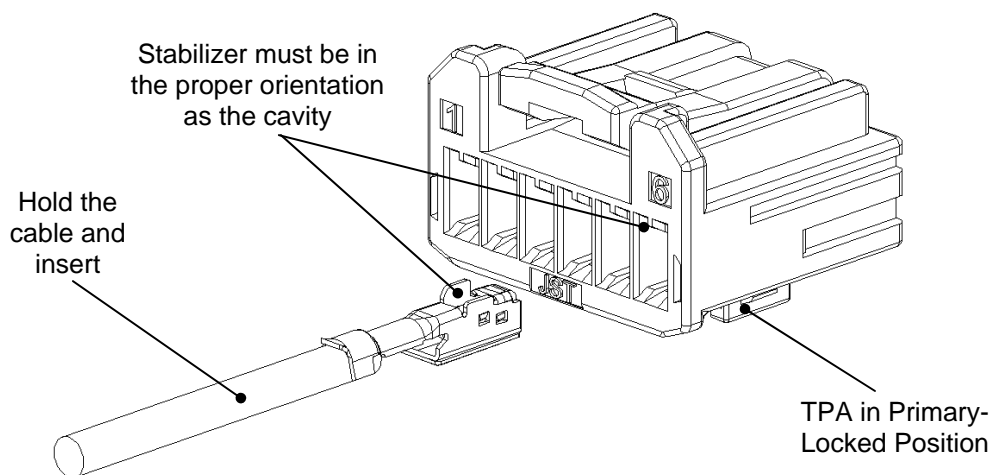

Figure 14. Insertion of Female Terminal to Female Housing Assembly (e.g. 6 positions)
- a) First, confirm that the TPA is in its primary lock position. See Figure 14. The TPA may be pushed down to its final position during delivering. If it is in that case, release the TPA to its primary-locked position before inserting the terminal. For releasing the TPA to its primary-locked position, refer to section 7.3 of this manual (Releasing the TPA to its Primary Lock Position).
- b) When inserting the terminal into the housing, check to see if the terminal is in the proper orientation. See Figure 14.